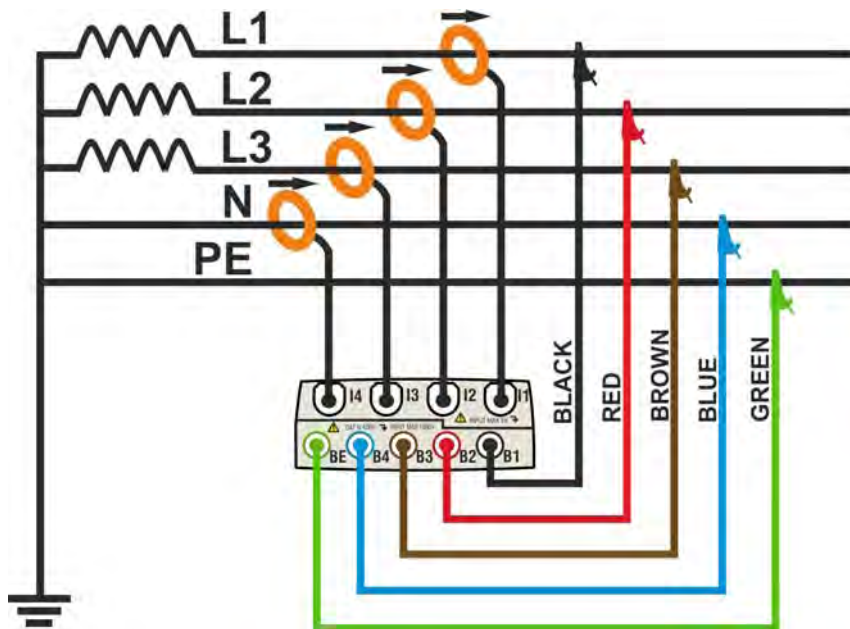

Fig. 132: Meter connection in a three phase 4WIRE system – ENG type
2. Connect voltage test leads on Phases L1, L2, L3, Neutral and Ground cables considering the colours as shown in Fig. 132. **Verify the result “123” at display relative to a correct phase sequence indication** (see § 5.2.1) and perform the corrections if necessary.
3. Connect the transducer current clamps on Phase L1, L2, L3 and Neutral N cables as shown in Fig. 132 respecting the clamp's arrow direction indicating the current standard sequence from generator to load. **On Real Time Values' section screens always verify the positive value of Active Power and the power factor relative to each load which should be normally inductive** before starting a recording. Reverse the clamp by 180 degrees on cables in case of negative readings.